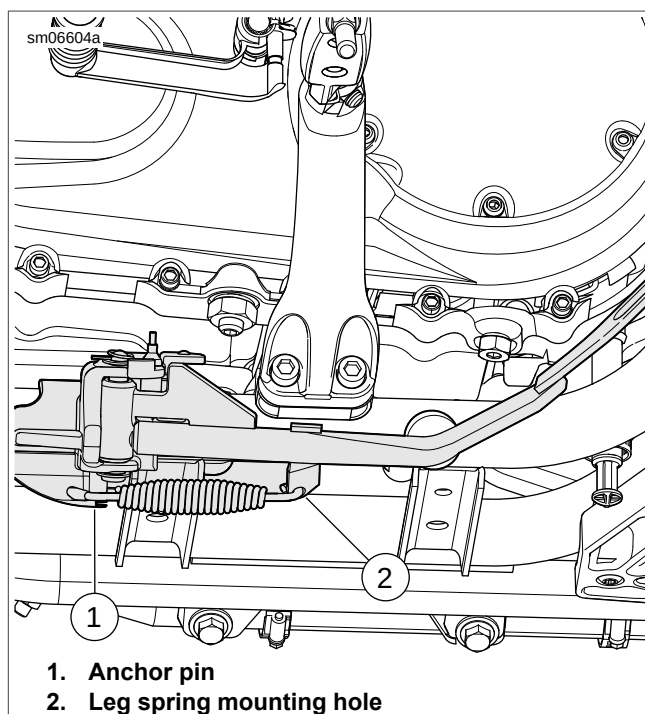

Figure 2-221. Jiffy Stand (typical)
3. See Figure 2-221. Install spring.
- a. Hook spring into spring mounting hole (2) on leg.
- b. Hook spring over frame mounted anchor pin (1).